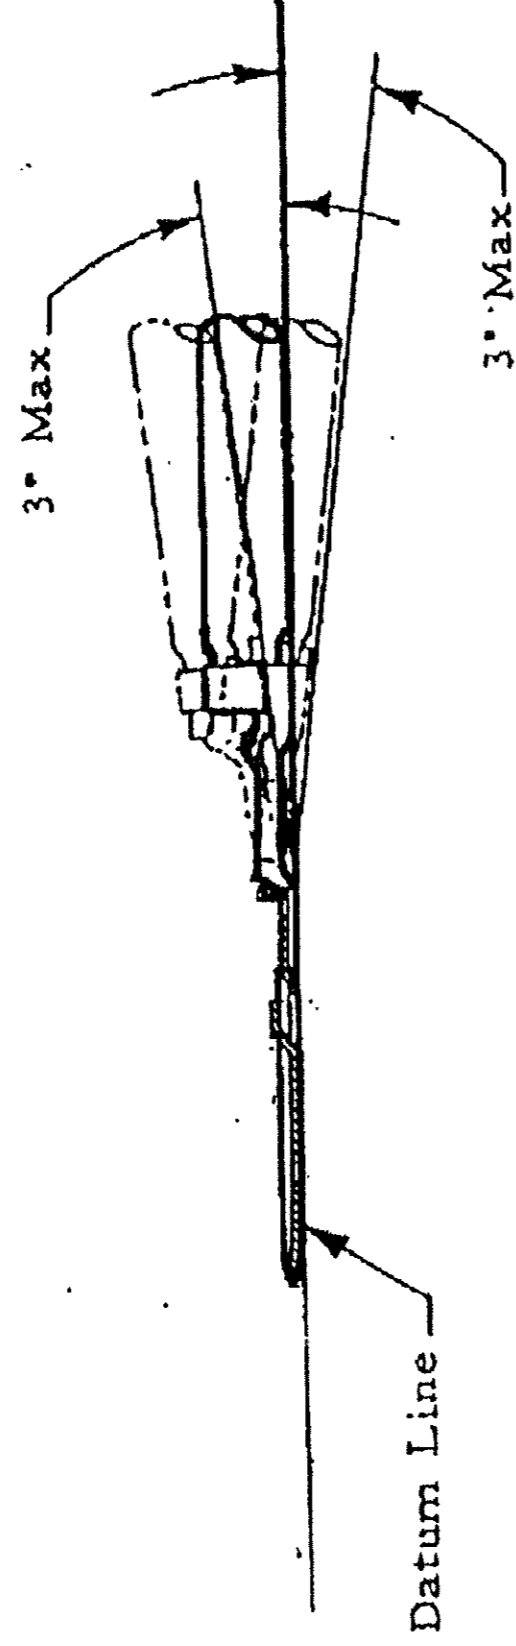

Figure 2
(1) The contact, including the cutoff tab and burr shall not be bent above or below the datum line more than the amount in Figure 2.